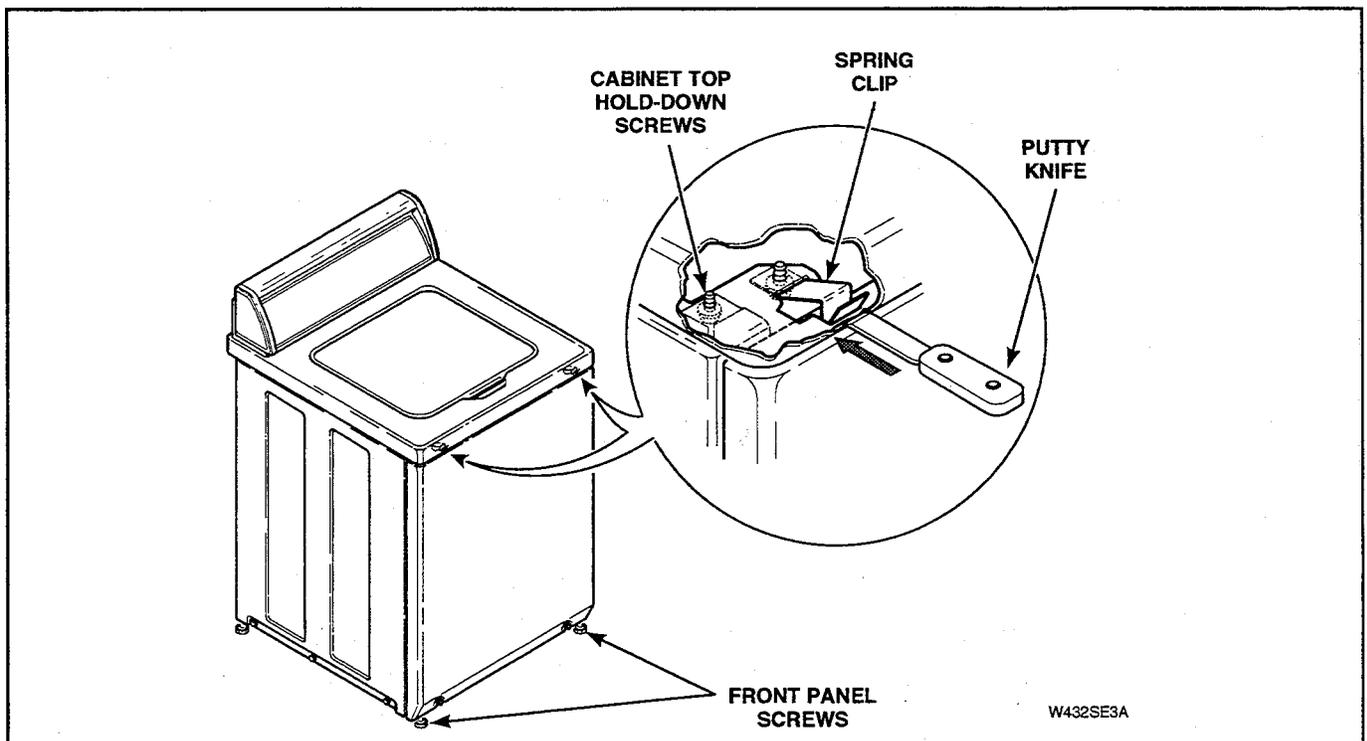

Figure 5-16
NOTE: Top edge of front panel is held in place by two spring clips located on bottom flange of cabinet top. See Figure 5-16.
- a. Insert putty knife between cabinet top and top edge of front panel (approximately three inches in from side). See Figure 5-16.
- Insert putty knife between cabinet top and top edge of front panel (approximately three inches in from side). See Figure 5-16.